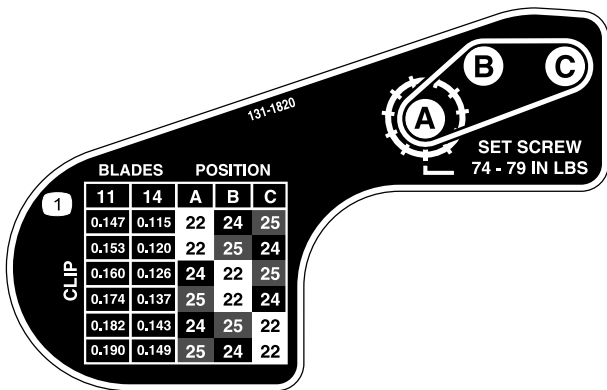

Figure 18
6. Using the chart shown on the decal in Figure 18, determine the clip setting you want and which pulleys you will need to move.
9. Install each pulley in the new configuration as indicated on the decal (Figure 18).